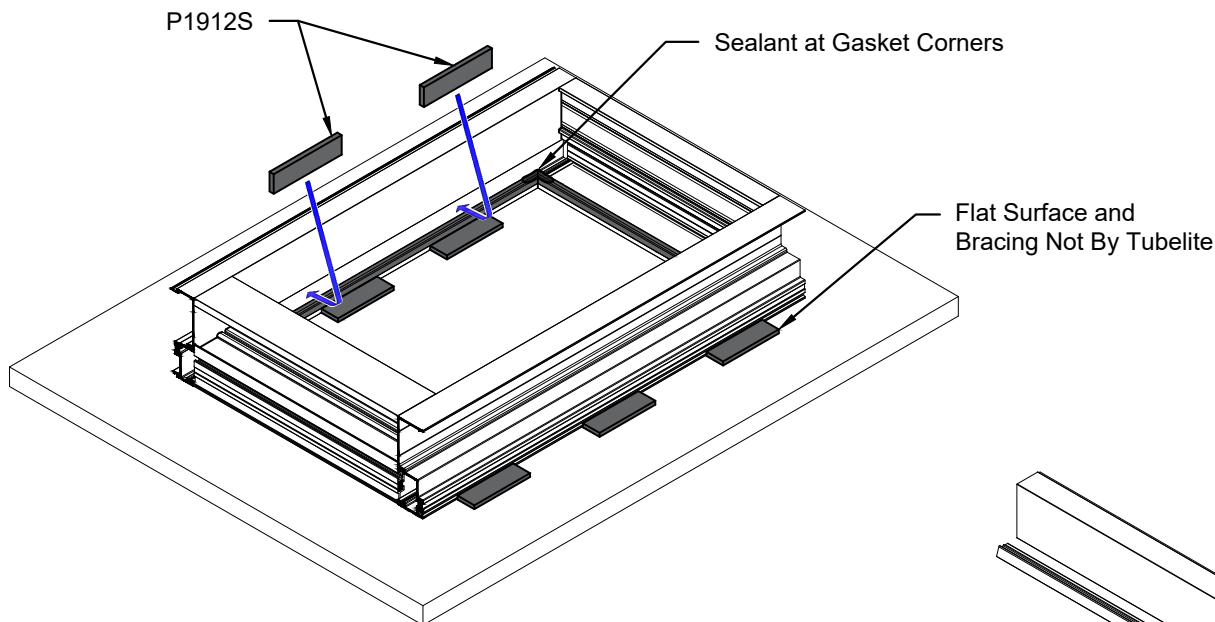

Fig. 34.1
- Set frame on a horizontal surface glazing pocket down. Frame must be square and should be braced intermittently on both sides of the mullion to prevent distortion when inserting gaskets. See Fig. 34.1.
- Seal corners of interior gaskets prior to setting the glass. See Fig. 34.1.